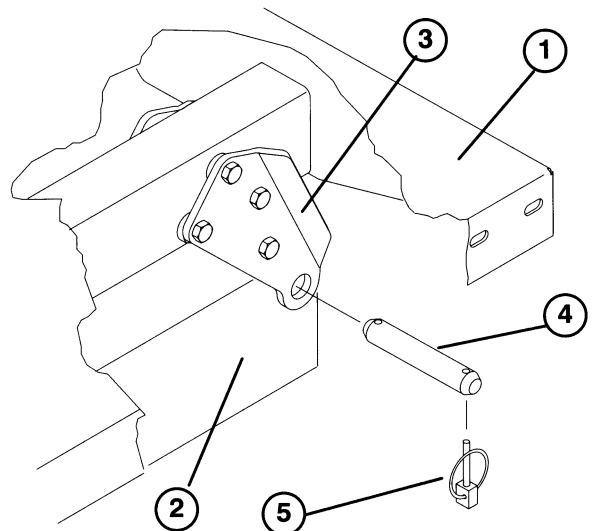

Figure 2
3. Remove the clevis pins securing the cylinder rod ends to the bed mounting plates by pushing the pins toward the inside (Fig. 2).
4. Remove the Lynch pins and clevis pins securing the pivot brackets to the frame channels (Fig. 2).
- Note:** Assure the rear pivot plates are bolted to the bed frame/channel so that the lower end angles to the rear (Fig. 2).